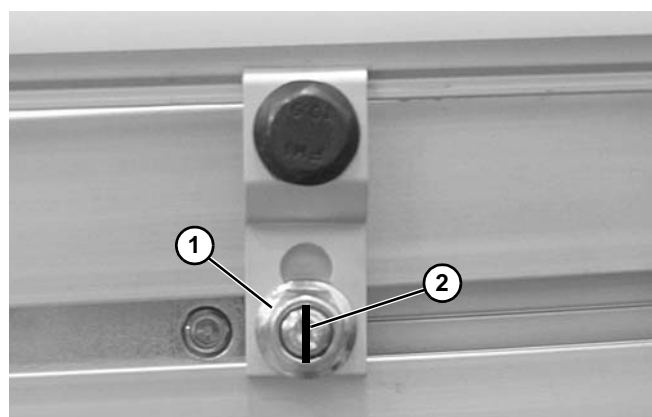

Figure 77
3. Tighten nuts (**Figure 77, item 1**).
*Be certain that slot (**Figure 77, item 2**) is close to vertical when finished tightening nut.*